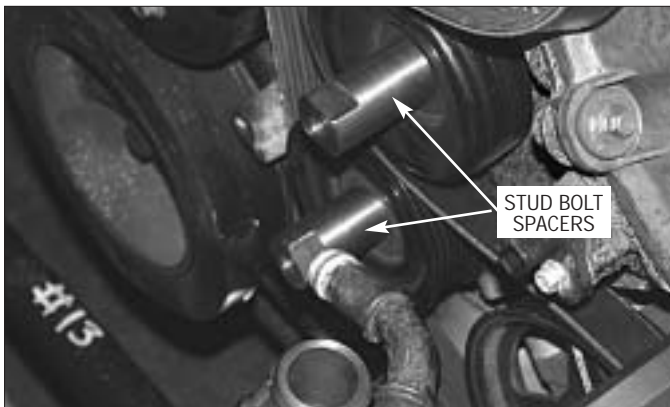

Fig. 7-a
- B. Locate the two supplied stud bolt spacers (see Figs. 7-a, 7-b) in the S/C mounting plate assembly. Remove the factory screws retaining the idler pulleys on the driver's side of the engine and replace with the stud spacers.